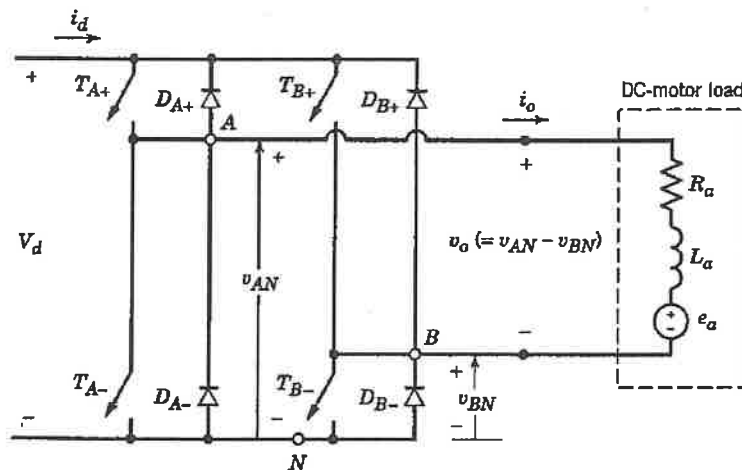

Figure 1.1: Full-bridge dc - dc converter connected to a dc motor load.
- b) A full-bridge dc - dc converter connected to a dc motor load is shown in the Figure 1.1.